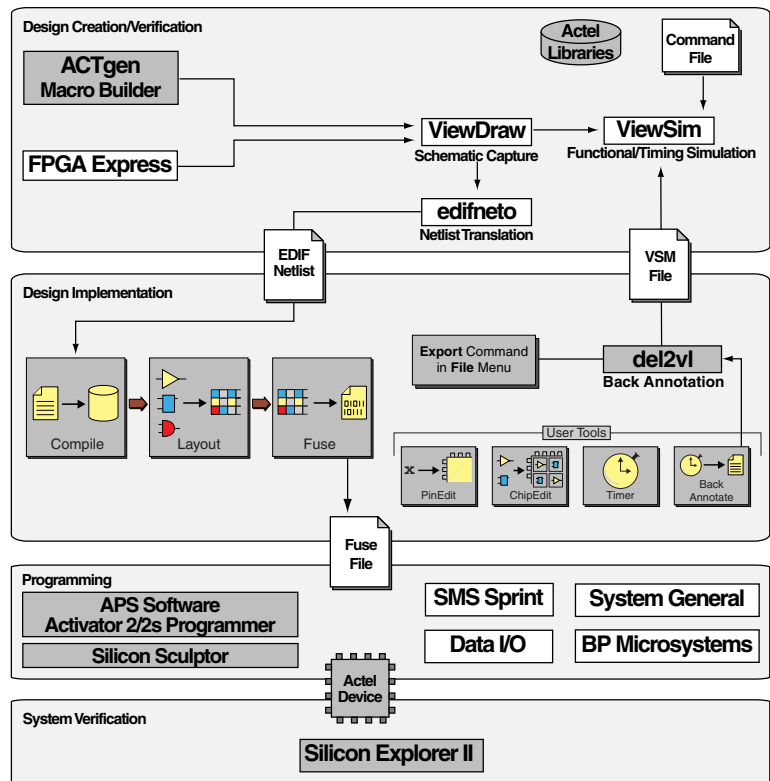

Figure 2-1. Actel-Innoveda Schematic-Based Design Flow
Figure 2-1 shows the schematic-based design flow for creating an Actel device using the eProduct Designer and Designer Series software¹.
1. The grey boxes in Figure 2-1 denote Actel-specific utilities/tools.